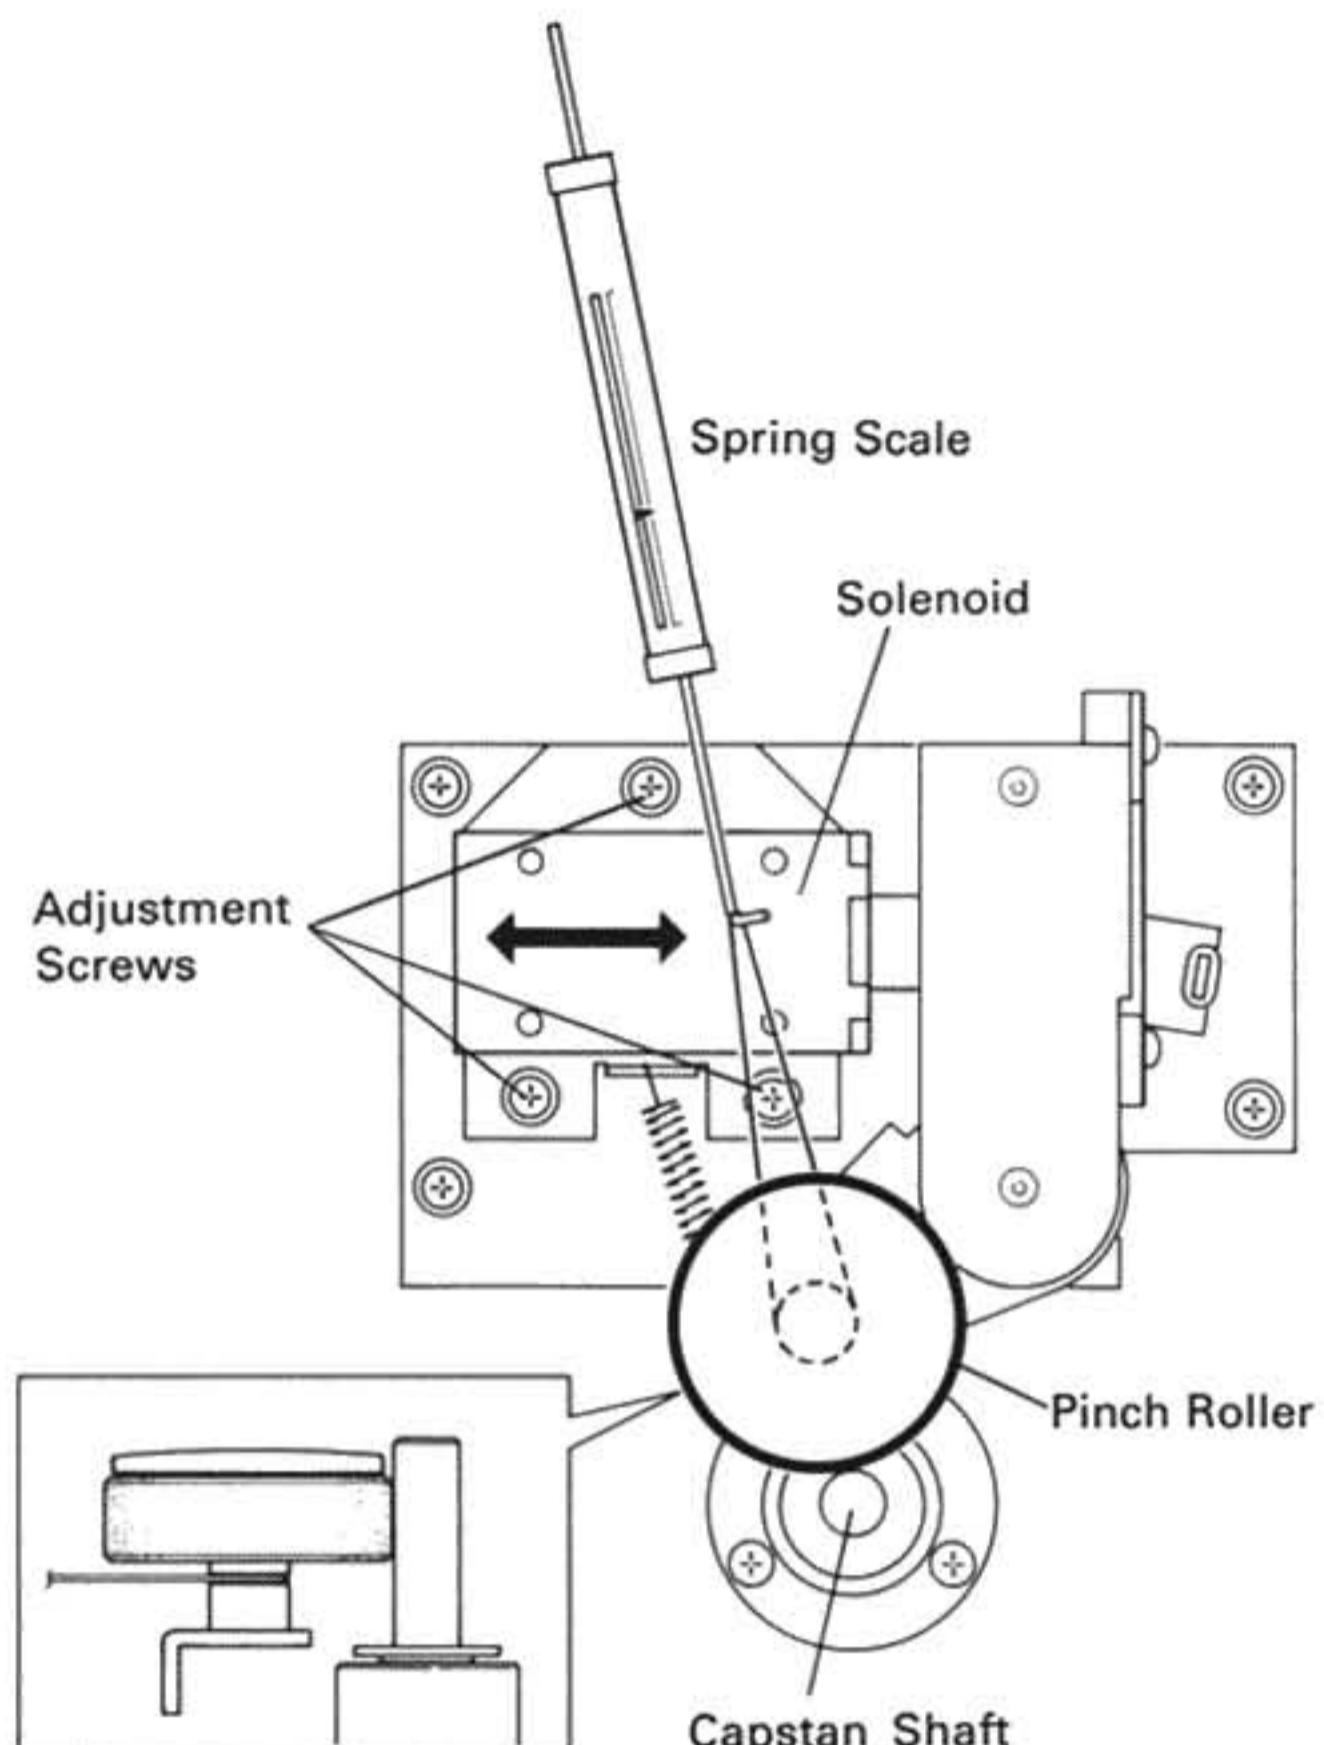

Figure 5-3. Pinch Roller Pressure Measurement and Adjustment
Loosen the three mounting screws (Figure 5-3) in the solenoid and adjust the solenoid position.
2. Attach a spring scale to the pinch roller shaft as shown in Figure 5-3.
3. Press PLAY and slowly pull the spring scale perpendicularly to the pinch roller arm as shown in Figure 5-3.